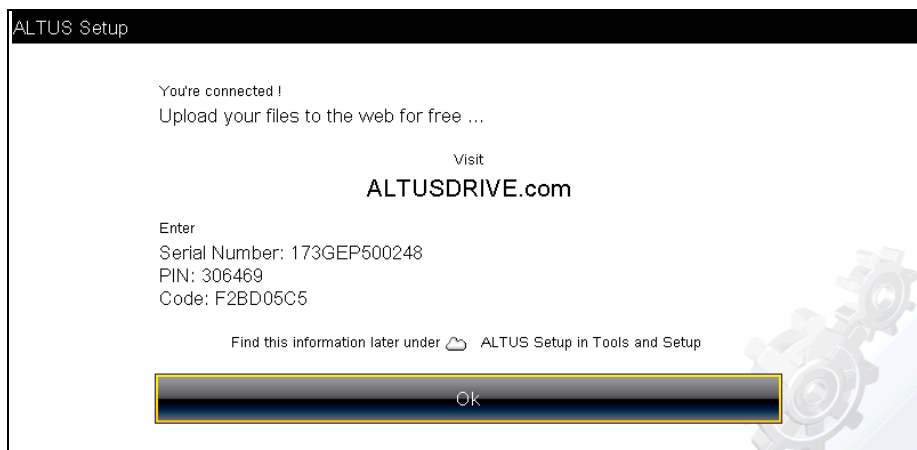
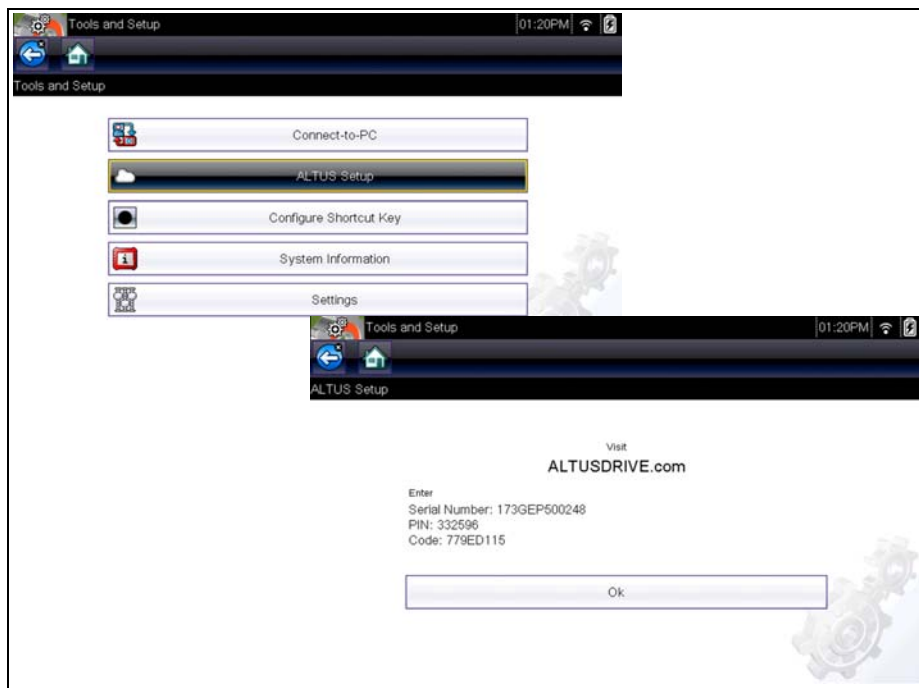

Figure 13-1
Figure 13-2
2. Write down the Serial Number, PIN and Code that are displayed when the device connects to the Wi-Fi network (Figure 13-1), or leave the screen displayed. Registration information can also be found in the Tools menu, see ALTUS Setup Information Screen, on page 142,.
The PIN and Code numbers will change each time you view the ALTUS Setup screens (Figure 13-1 and Figure 13-2). This is normal, any displayed set of PIN and Code numbers may be used to register on ALTUSDRIVE.com.
From the Home screen, selecting **Tools > ALTUS Setup** (Figure 13-2) allows you view the diagnostic tool serial number, PIN and Code needed to register on ALTUSDRIVE.com.
The PIN and Code numbers will change each time you view the ALTUS Setup screens (Figure 13-2 and Figure 13-1). This is normal, any displayed set of PIN and Code numbers may be used to register on ALTUSDRIVE.com.